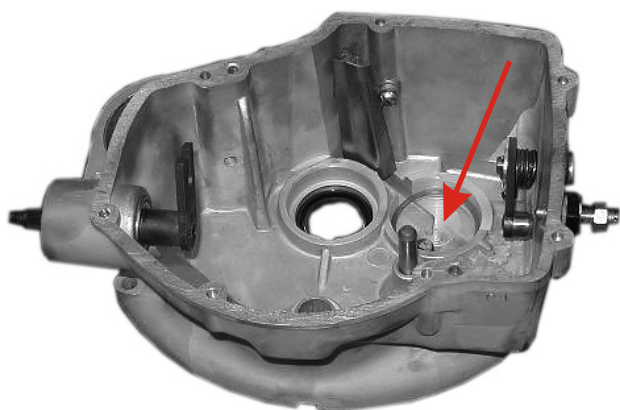

Fig. 55
- Set the shims into the blind hole in the crankcase and grease them (Fig. 55);